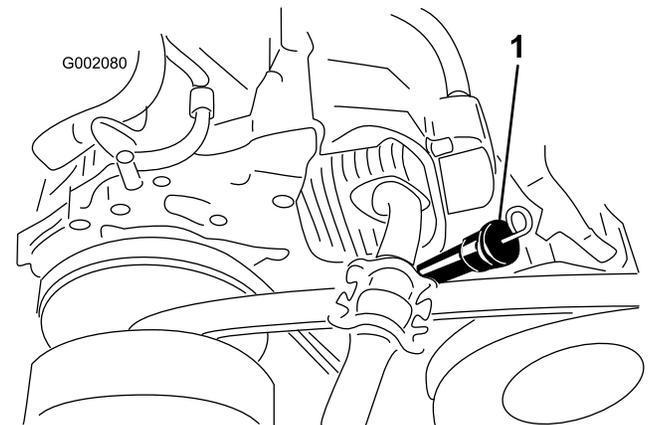
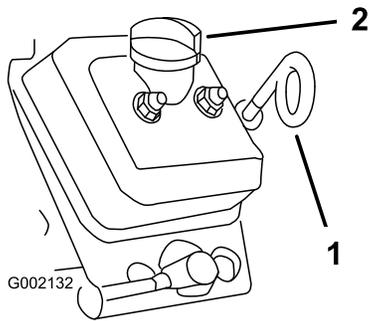

Figure 15
Figure 16
- Models **07266TC and 07279**—the oil dipstick and fill spout (Figure 15).
- Models **07273** and **07273TC**—the oil dipstick and fill cap (Figure 16).
- Remove the oil dipstick and wipe the end clean (Figure 15 and Figure 16).
- Slide the oil dipstick into the filler tube fully seating it (Figure 15 and Figure 16). Pull the dipstick out and look at the end.
- Install the oil dipstick and firmly seat it (Figure 15 and Figure 16).